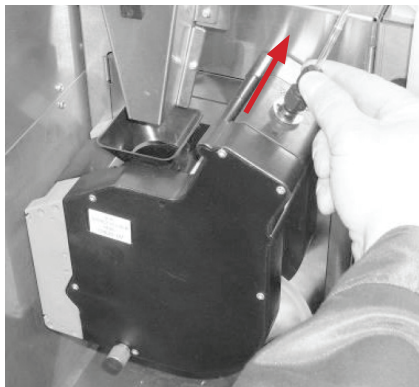

Figure 59
To service the boiler, which is located behind the espresso group, it is necessary to remove the whole group. The group can be removed as shown in figures 59...62.
1. Disconnect the hot water supply pipe, unclamping the fixator (see figure 59)